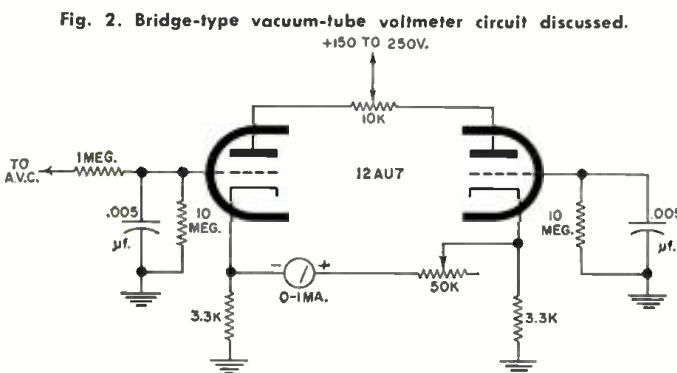

Fig. 2. Bridge-type vacuum-tube voltmeter circuit discussed.
This problem of circuit loading is present whenever power must be removed from the circuit to actuate the meter. An example is the common volt-ohm-milliammeter which produces inaccurate readings in very high resistance circuits. When loading is a problem, as in the a.v.c. circuit, a vacuum-tube voltmeter is generally used. Fig. 2 shows a typical
v.t.v.m. circuit. Here 11 megohms is connected across the a.v.c. circuit, rather than 10,000 ohms. The amount of loading, therefore, is insignificant. The circuit operates in the following manner. If the two triode sections are equal and resistors are the exact values shown, equal currents flow in both tube sections. This results in the same cathode voltage for both sections. With no cathode-to-cathode potential difference, no current flows through the meter. This condition represents meter zero. However, this ideal condition is seldom achieved in practice and a "Zero" potentiometer is required. This control, the 10,000-ohm pot in Fig. 2, varies the plate voltage on each section and is set to produce equal cathode voltages as indicated by a zero meter reading. An additional potentiometer is included in series with the meter for con-